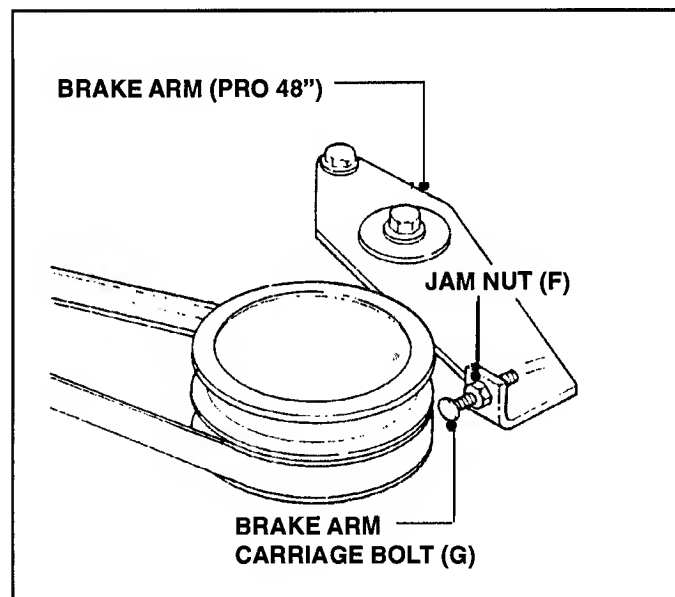

FIGURE 5.15
A. Loosen Jam Nut (F) on Brake Arm Carriage Bolt. See Figure 5.15.